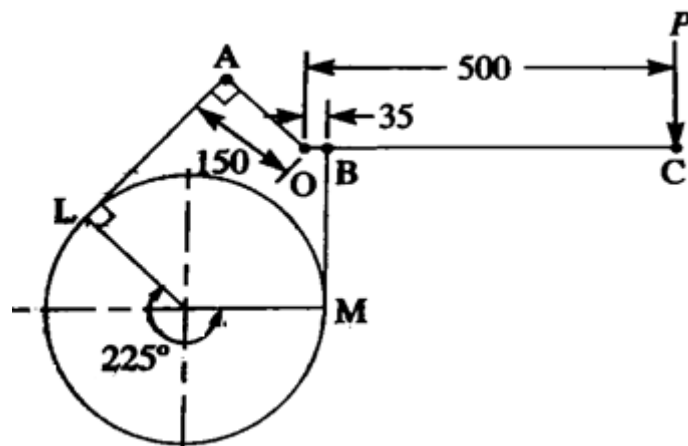

Figure 3
- (b) A differential band brake, as shown in Figure 3, has an angle of contact of 225° . The band has a compressed woven lining and bears against a cast iron drum of 350 mm diameter. The brake is to sustain a torque of 350 Nm and the coefficient of friction between the band and the drum is 0.3. Evaluate: